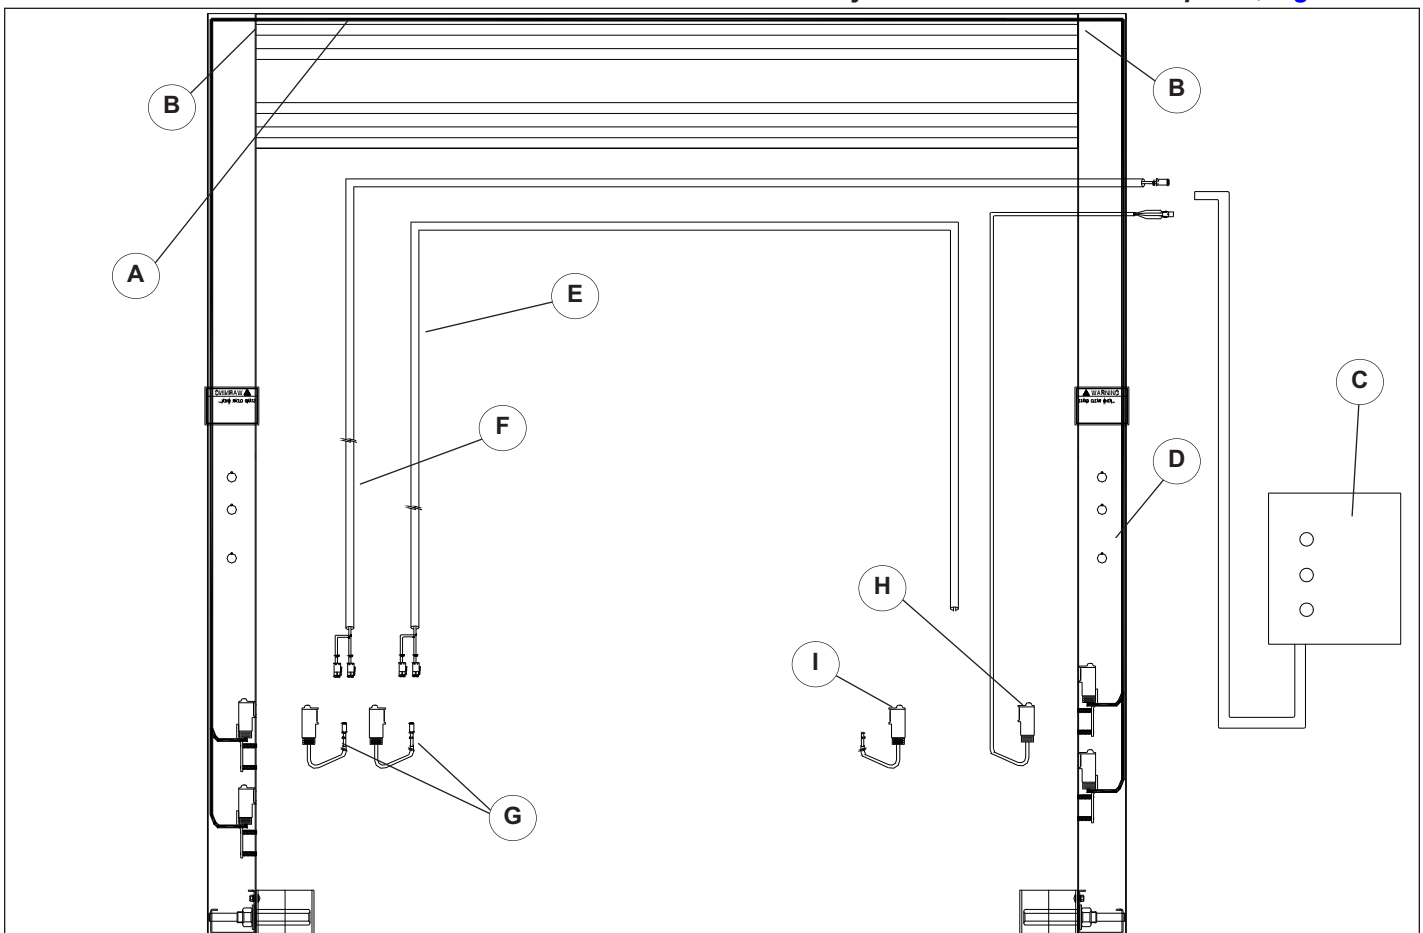
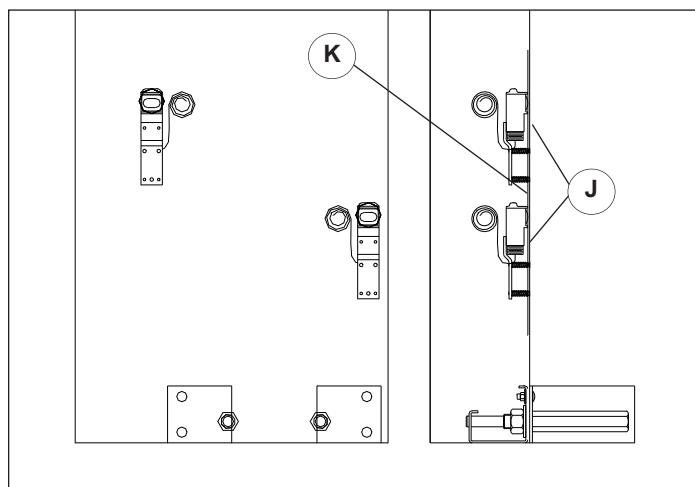

Figure 26.1
Figure 26.2
1. Make sure all photoeyes are plugged in. If the thru-beam option is chosen, the non-drive photoeye cable will be run across thru d-rings on the rear header brace (A) through grommets in each sideframe (B).
2. Locate the photoeye assemblies in the sideframe, **Figure 26.1**.
3. Plug in the cable from the non-drive sideframe to the header cable. Plug in the header cable and the drive side cable into the control box cable, **Figure 26.1**.
4. The yellow LED (L) should be on when the thru-beam photoeye (emitter) is powered up, if it is not on, check plug in connections, and proper wire terminal connections.
5. If the red and green LED's (M) are OFF, either the beam is blocked or the photoeye (J) is out of alignment. If necessary re-aim the photoeye by using the adjustment screws (K) on the sideframe assembly around the photoeye, **Figure 26.2**. The bottom screw allows for vertical adjustment and the two side screws adjust horizontal alignment. Rotate the screw until the red and green LED's turns ON.
For thru-beam installation with a control box (C), all photoeyes will have plugs that attach to the plugs on the cables that run back to the control box, **Figure 26.1**.
For thru-beam installation with a integral control station (D), the non-drive sideframe photoeyes will have plugs that attach to the plugs on the cable that runs back to the control station, the driveside photoeyes, will be wired directly to the control station, **Figure 26.1**.